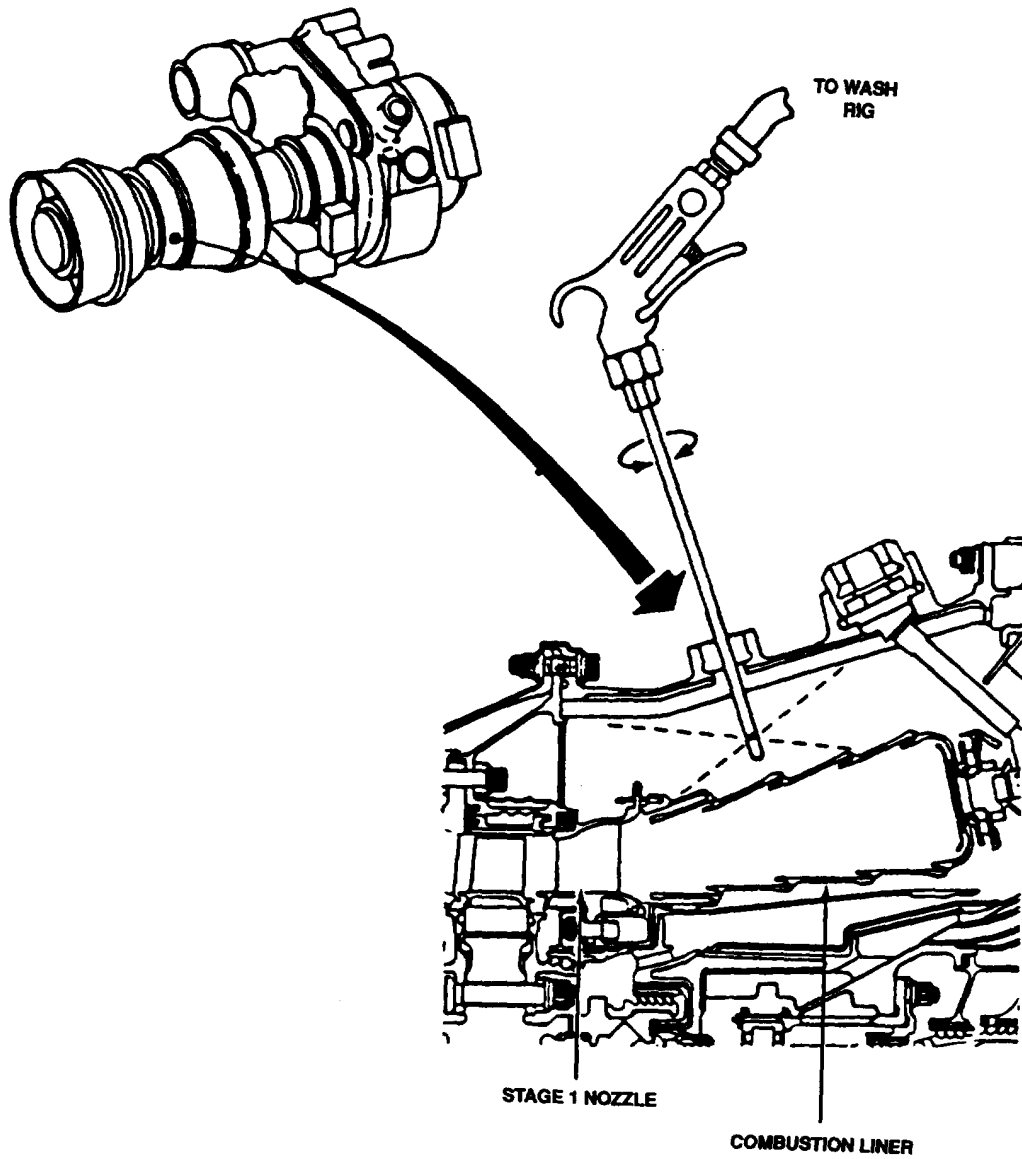

Figure 7. Washing Area Between Combustion Liner and Midframe Casing.
(7) Reposition sprayer so that spray tip is between combustion liner and midframe casing (fig. 7). Spray-wash entire area by rotating sprayer 360 degrees.
(8) Allow wash solution to soak the hot section parts for 10 minutes, then rinse the washed areas with clean water. Run the rinse water until clean water is observed running out the engine tailpipe. The rinse cycle can also be performed by connecting the wash cart to the compressor spray manifold (para 1-134.1, TM).
(9) Remove sprayer.
(10) Install igniter plug and ignition lead into either the 4 or 8 o'clock igniter plug port. Torque nut to 15° wrench arc.
(11) Run washed engines above ground idle for at least 5 minutes to dry out the engine flowpaths.